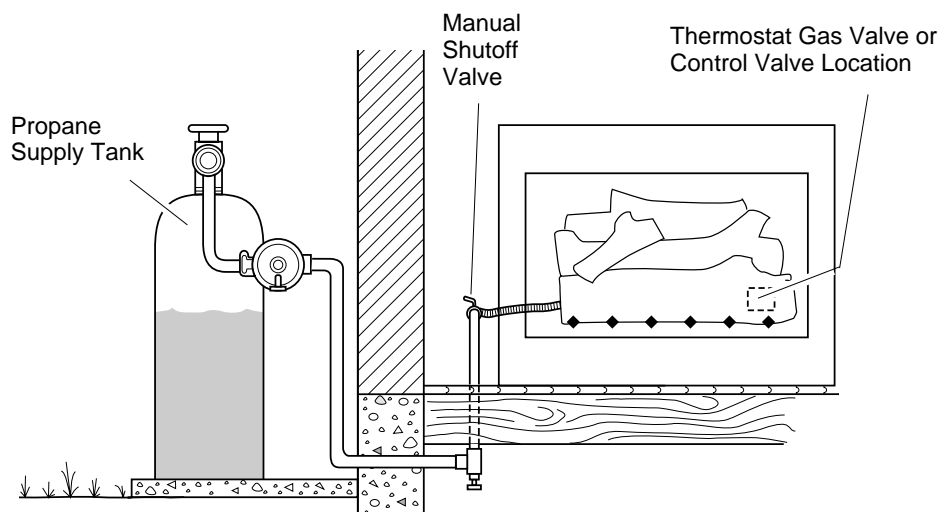

Figure 18 - Checking Gas Joints
3. Check all joints from propane supply tank to manual shutoff valve (see Figure 18). Apply mixture of liquid soap and water to gas joints. Bubbles forming show a leak.
4. Check all joints from manual shutoff valve to control valve (see Figure 18). Apply mixture of liquid soap and water to gas joints. Bubbles forming show a leak.